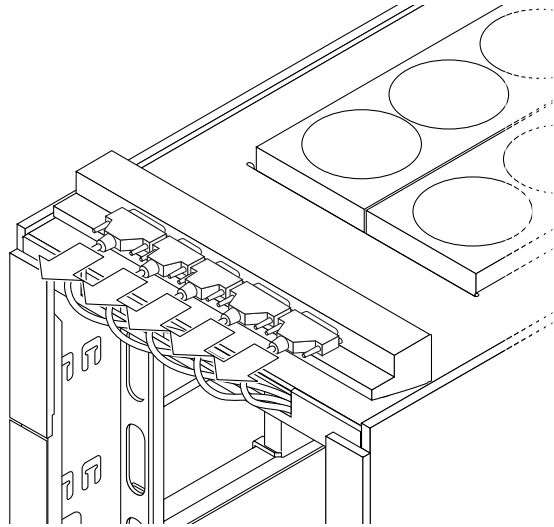

FIGURE 5-4 FrameManager Cable Location
3. **Disconnect the five cables from the assembly (FIGURE 5-4).**